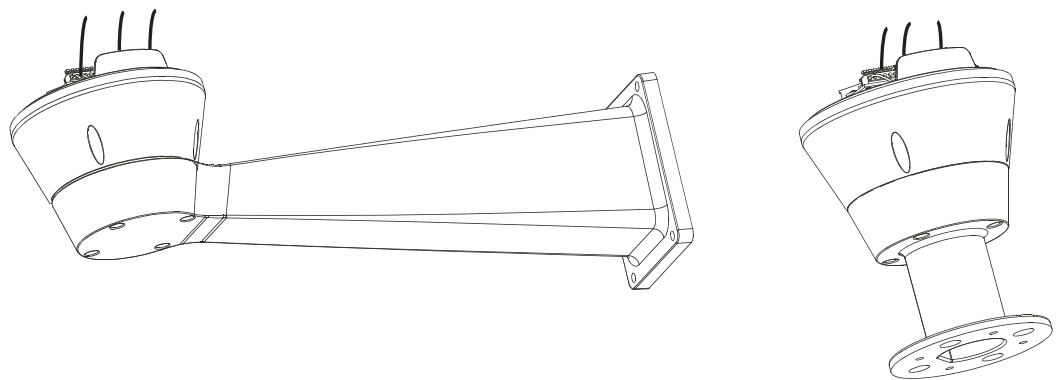

Fig. 4.4 Preparing the Cables for Wiring
9. Cut the cables to approximately 152.4 mm (6 in) (see *Figure 4.4*). The earth cable must be longer than the power wires approximately 10 mm or more to prevent the stretch disconnecting.